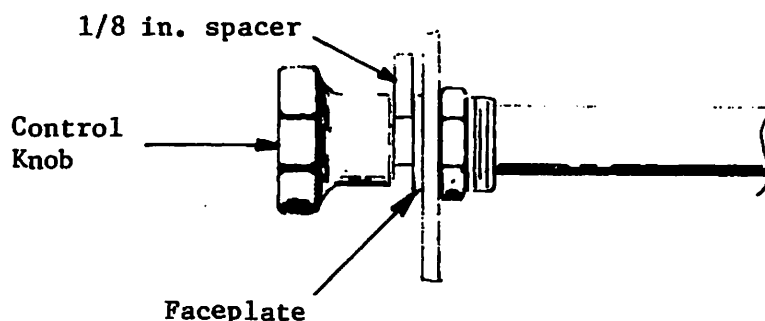

Figure 6-2. Typical Control Knob Rigging
- d. Position the mixture control arm completely against the full rich stop. Place a 1/8 inch spacer between control knob and faceplate. (See Figure 6-2).
- e. Position the carburetor heat control arm in the completely closed position (full forward). Place a 1/8 inch spacer between carburetor heat control knob and faceplate (See Figure 6-2).